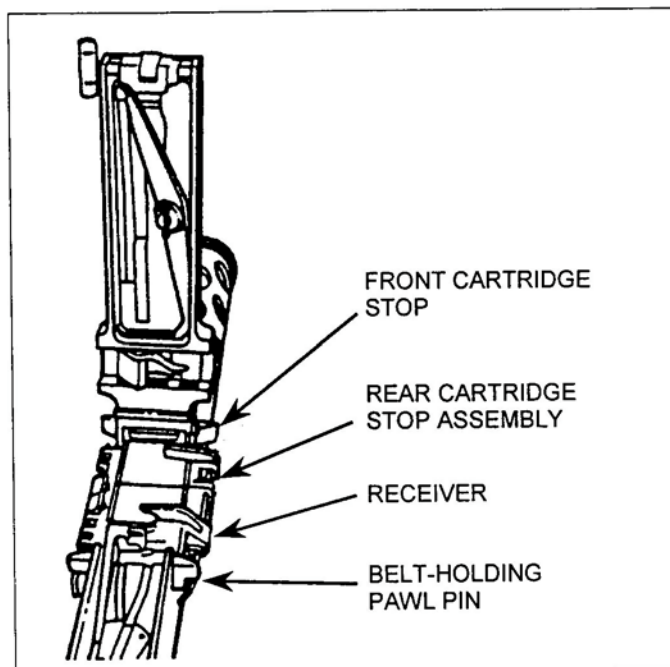

Figure 20. Removal of the cartridge stop assemblies.
- (1) Remove the front cartridge stop and rear cartridge stop assembly (Figure 20).